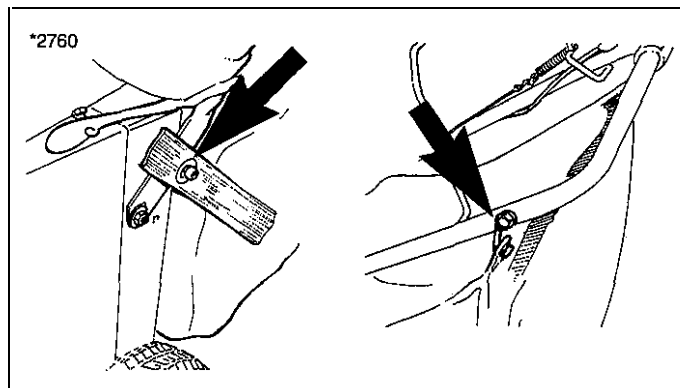
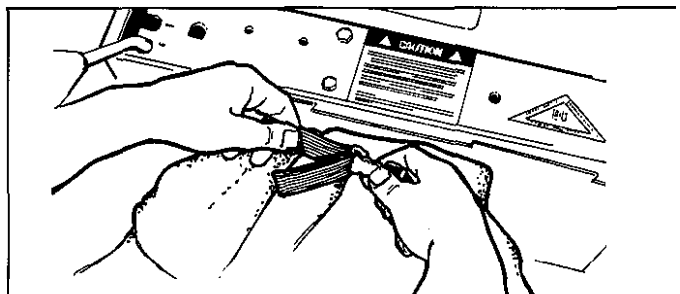

Figure 8. Unhook Support Straps
Figure 9. Loosen Cinch Strap
1. To remove the bag, shut the unit off, and let the rotor come to a complete stop. Unhook the rear and front support straps, (Figure 8), then loosen the cinch strap that holds the bag opening to the discharge chute. (Figure 9)